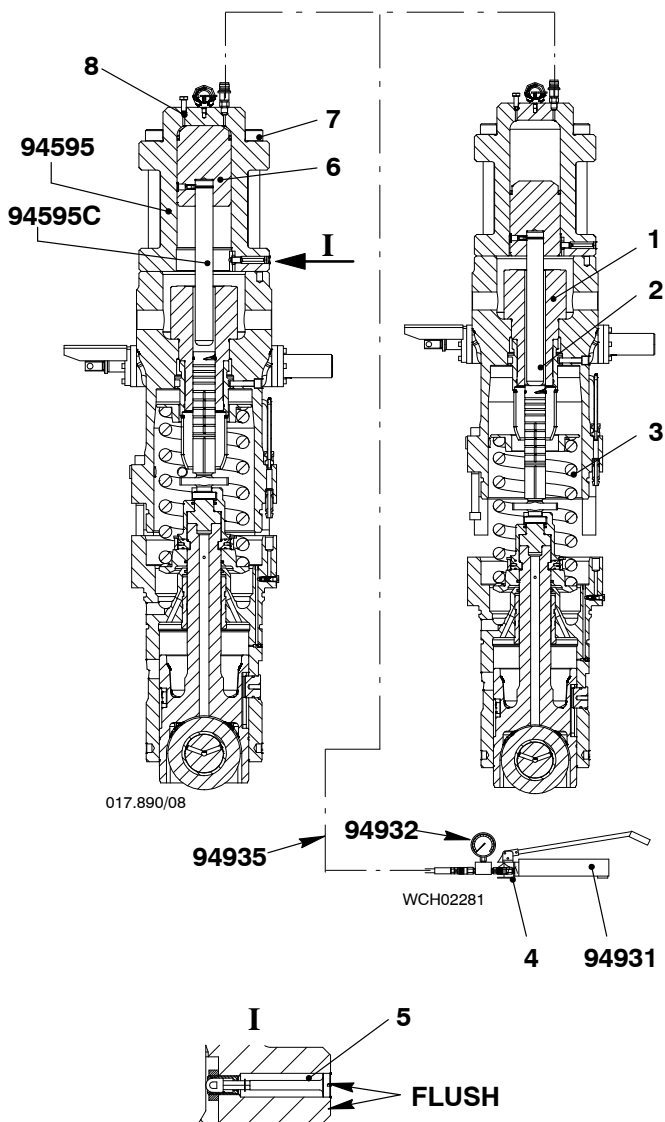

Fig. 5
- 4) Connect the hydraulic ram (94595, Fig. 5) to the HP oil pump.
- 5) Close the relief valve (4).
- 6) Open the vent screw (8).
- 7) Operate the HP oil pump until oil that has no air flows from the vent screw (8).
- 8) Close the vent screw (8).
- The compression spring (3, Fig. 5) pushes the pump plunger (2) out of the cylinder (1), or
- The indicator (5) is flush with the housing. (This shows that the piston is at the end of its stroke.)
- 10) Remove the screws (7).
- 11) Remove the pump plunger (2).